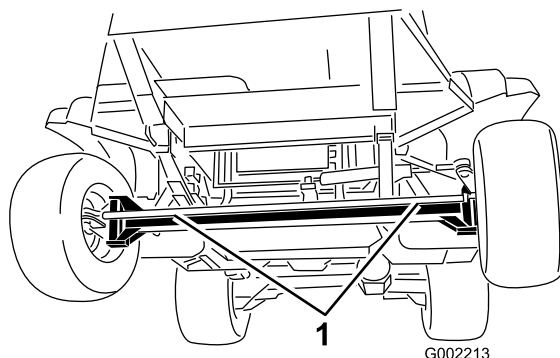
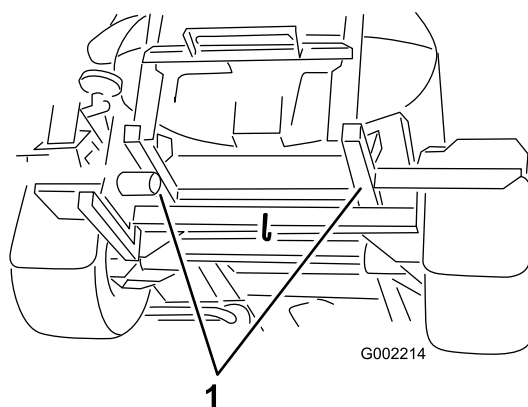

Figure 27
Figure 28
2. Affix a tow line to the frame. Refer to the front and rear towing points in Figure 27 and Figure 28.